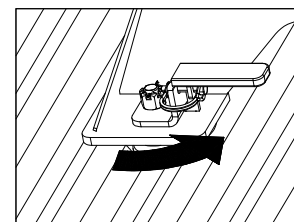

Figure C2: View of closed latch handle.
- 2. Prepare to adjust latch tension.** Once the base is in place, remove the cotter pins from each of the four castle nuts. Engage the cams with each attachment point by turning the latch handles back to their locked position, see Figure C2. If a handle will not turn easily, loosen the castle nut until the cam will freely turn and engage the attachment point.